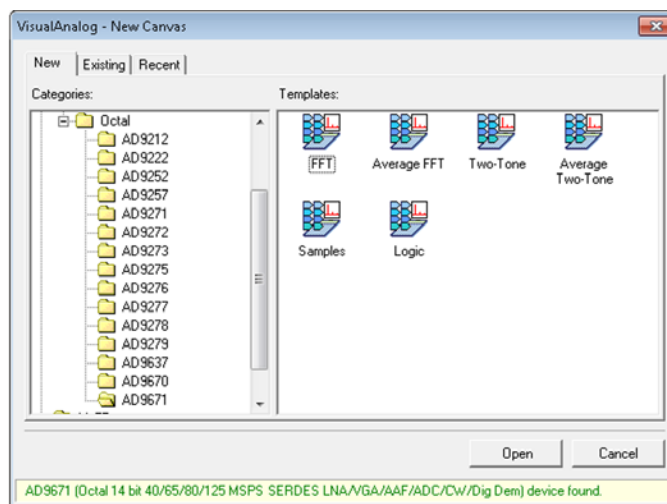
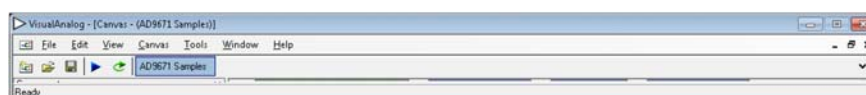

Figure 3. VisualAnalog Canvas Selection
Figure 4. VisualAnalog Collapsed Window Mode
3. Select the **AD9671** folder on the left side of the window shown in Figure 3 to view the available templates. Select the **Samples** canvas, which shows output vs. sample count. After the **Samples** canvas is selected, the VisualAnalog task bar opens as shown in Figure 4.